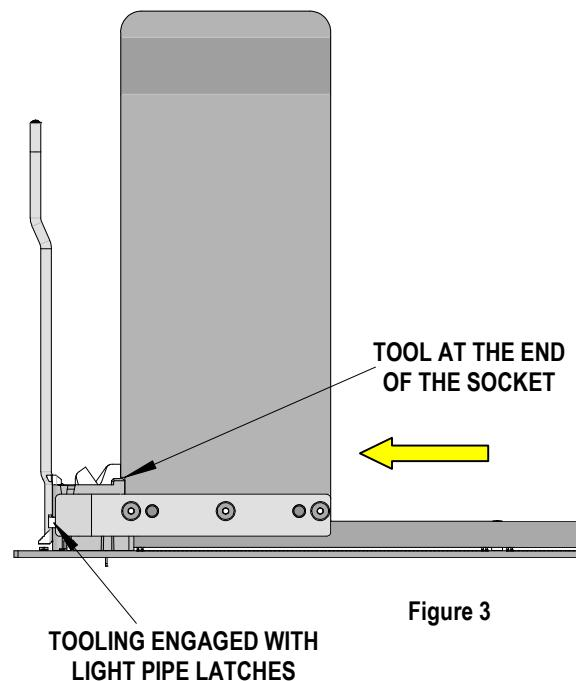

Figure 3
4. Slide the tool towards the light pipe. The tool will stop at the end of the socket (at this point the tool spreads the latches of the light pipe). See Figure 3.